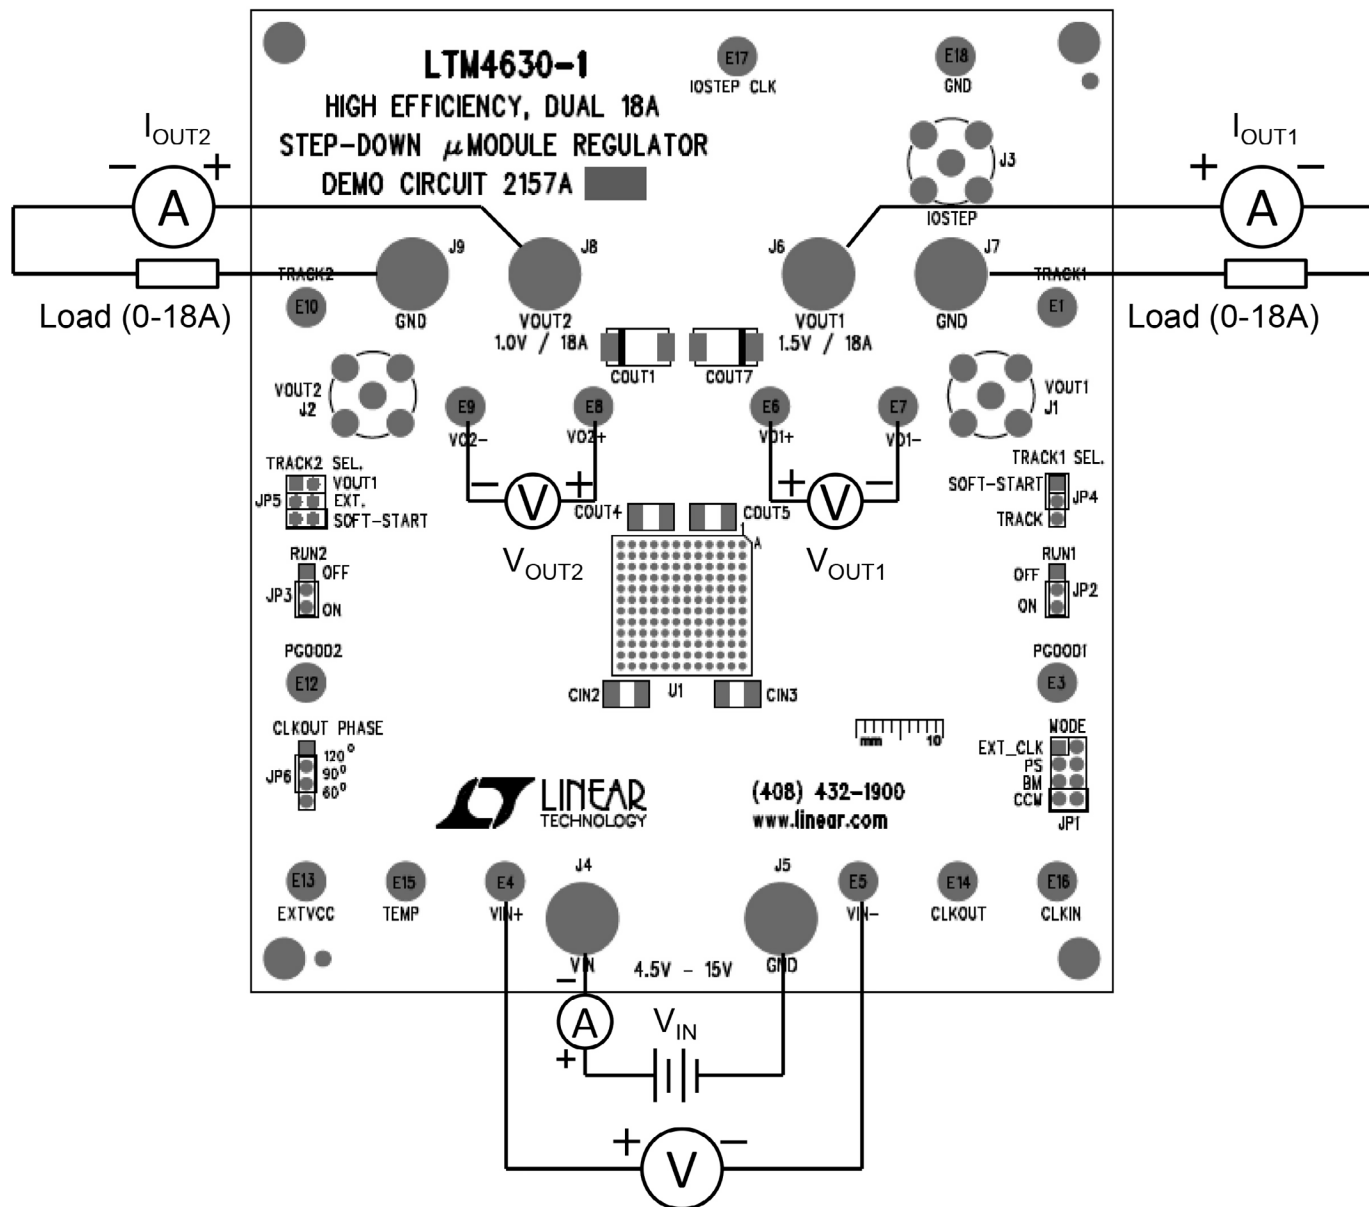

Figure 1. Test Setup of DC2157A
Demonstration circuit DC2157A is easy to set up to evaluate the performance of the LTM4630-1. Please refer to Figure 1 for proper measurement setup and follow the procedure below:
- With power off, connect the input power supply, load and meters as shown in Figure 1. Preset the load to 0A and VIN supply to 12V.